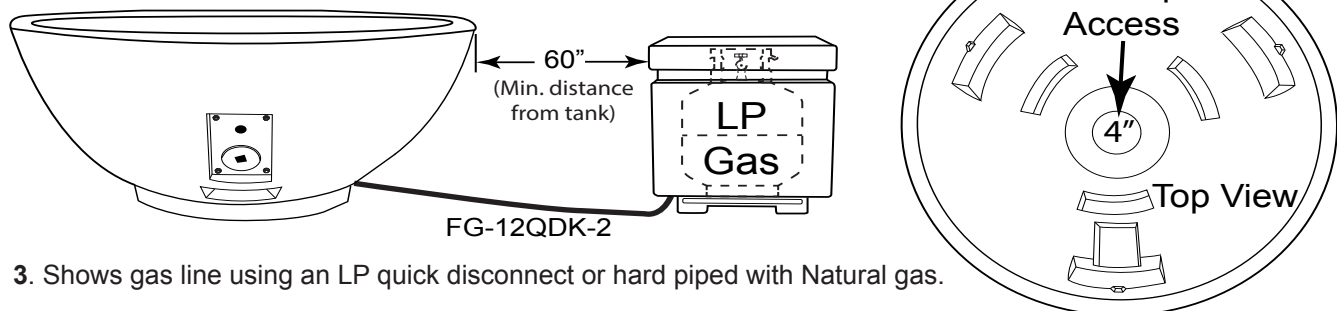

Fig 3. Shows gas line using an LP quick disconnect or hard piped with Natural gas.
The Sanctuary 2 and 3 can be plumbed with either Natural or Propane (LP) gas. See Fig. 3. If you choose to run hard pipe to Sanctuary models enter through center (bottom) of the bowl; protrude pipe no higher than 6" above ground level.
1. Do not place an LP tank inside any fire feature enclosure. Locate all propane (LP) tanks outside the enclosure inside an approved separate enclosure a minimum of 60" from the Sanctuary 1. Flex line can run through any vent holes.
2. If using Propane gas an FG-LPRK regulator (not included) must be used and a FG-12QDK-2 quick disconnect kit (not supplied) enables the use of a Propane (LP) gas tank connection. See Fig. 3.